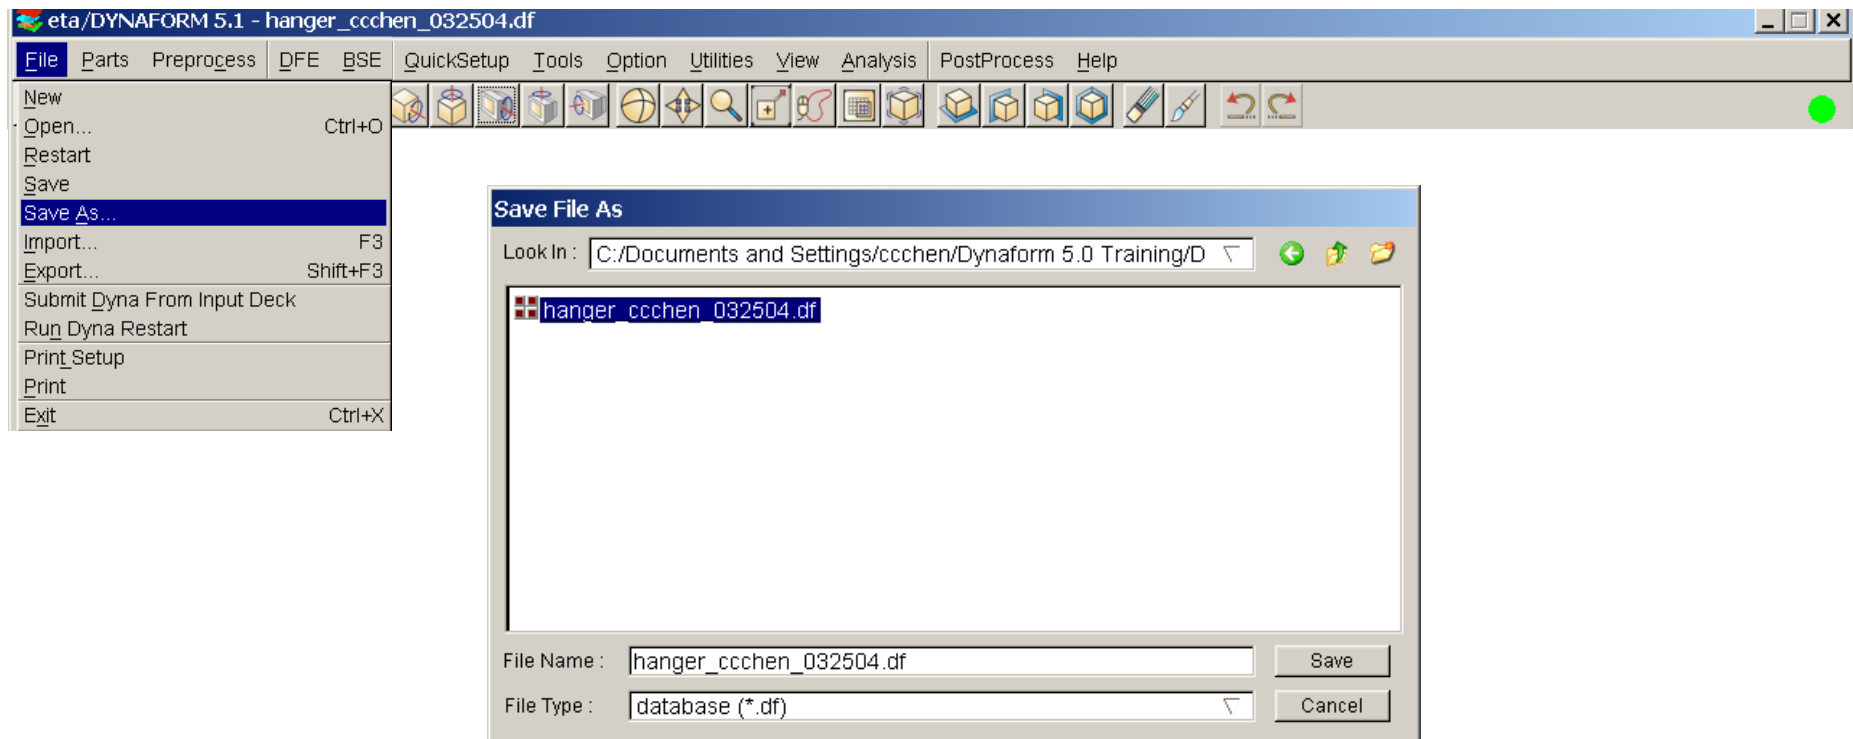

Figure 1.1
- b) Click on *File* and select *Save As ...* (See Figure 1.1)